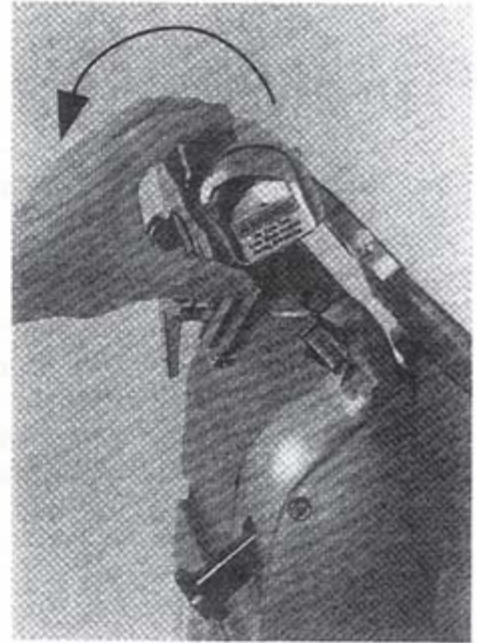

Figure 19-1
4. Expose sharpener stones by lifting the knife sharpener cover (Fig. 19-1). Stones should be clean, dry and free of grease.